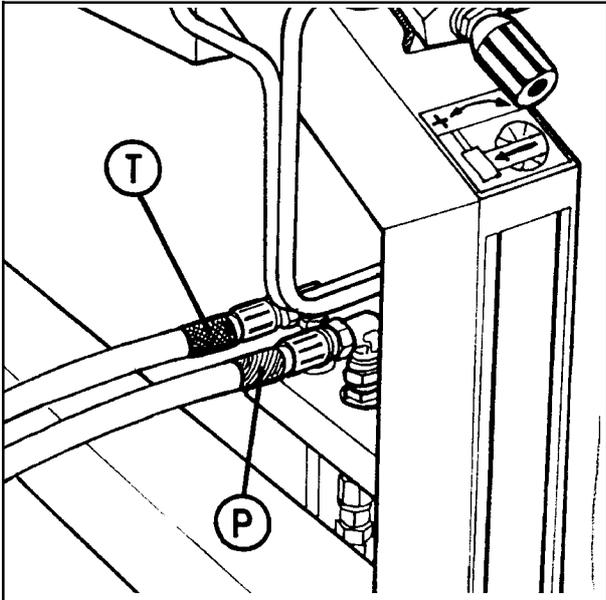

Fig. 4-3
The counter pressure on the return must be as low as possible, and not exceed 10 bar. This should be measured with a gauge. It is recommended to use one single-working hydraulic outlet and arrange a free return circuit to the oil tank. If you are unsure of what oil pressure the tractor gives, or what oil pressure the balewrapper receives, please contact your machinery dealer. Generally all tractors have got some counter-pressure in their hydraulic return systems. Some tractors have more than others. **Hose with red cap shall be connected to pressure, (P), and hose with blue cap to the return. (T).** (See fig. 4-3).